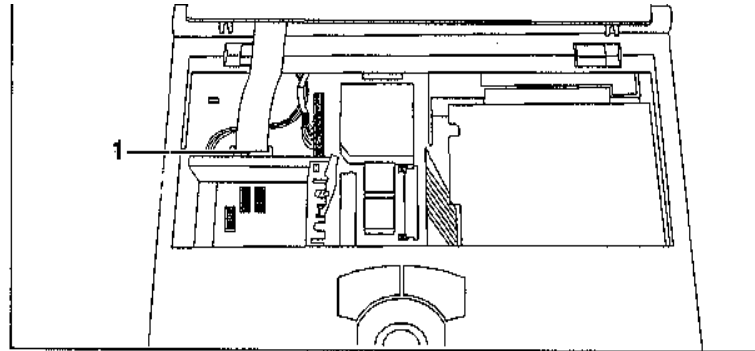

Figure 7-2-2. Keyboard Disassembly/Reassembly
4. Unplug the keyboard cable ( Figure 7-2-2 #1 )
1. Reconnect the keyboard cable ( Figure 7-2-2 #1 )